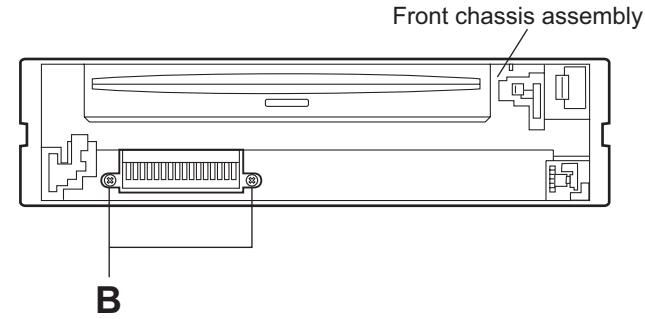

Fig.3
- (2) Remove the two screws **B** on the front side of the main body. (See Fig.3.)